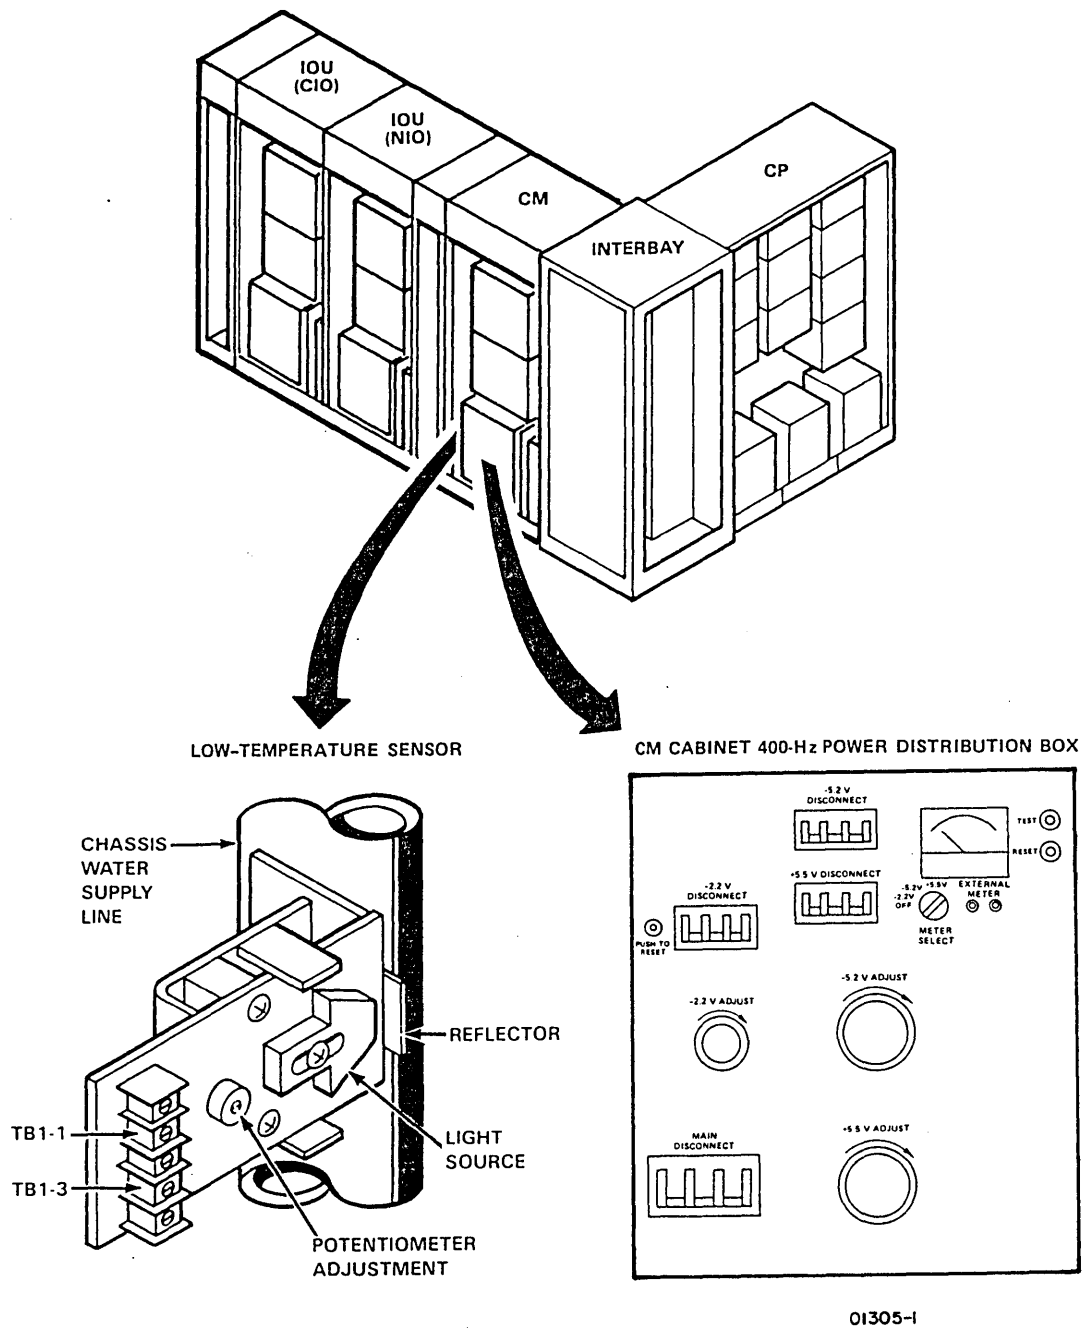

Figure 3-54. CM Power Controls and Adjustments
- ___ a. Set METER SELECT switch (figure 3-54) to +5.5 V.